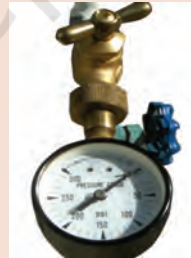

Fig. 4.39
4. Screw the end of the pressure gauge in the threaded spigot as shown in Fig. 4.39.